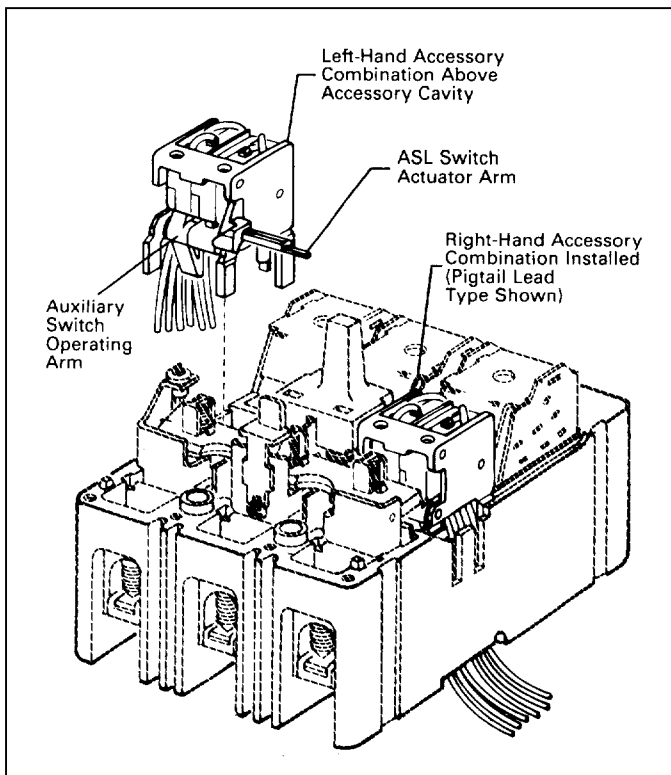

Fig. 2-7. Accessory Combination Installation Positions
- 2-9. Install accessory combination switch as described in the following steps (see Fig. 2-7):